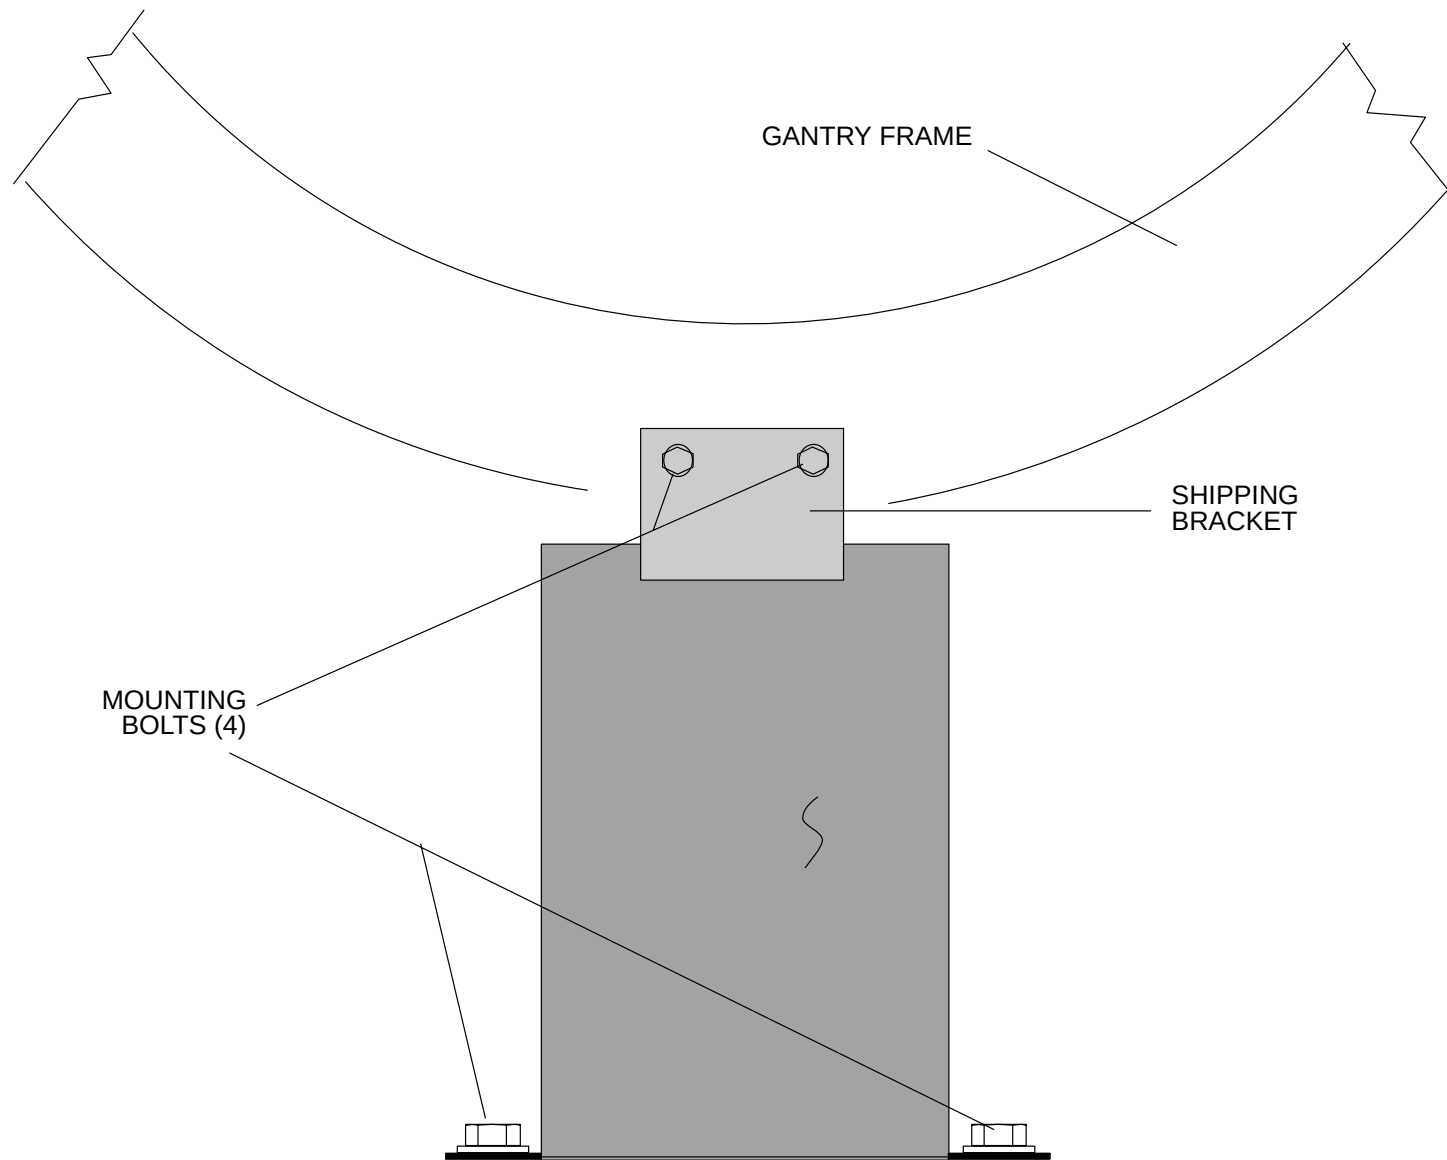

FIGURE 23 GANTRY SHIPPING BRACKET
In most installations, all six bolt holes are now accessible. In some situations it will be necessary to power the Gantry (later, in this procedure) and tip it to +5 degrees for access to the front two holes. ***Ensure that the Gantry anti-tilt shipping bracket is removed before tilting. See Figure 23.***
5. Use the appropriate wrench (i.e., for hex-head or Allen-head) and remove the Gantry tilt bracket located in the lower center portion in the back of the Gantry. This bracket prevents inadvertent Gantry tilt during shipment. Refer to Figure 23. **HINT:** Sometimes the fit is very tight and the bracket cannot be removed after unbolting. Later, after power is applied, tilt the Gantry slightly to release the pressure on the anti-tilt bracket.